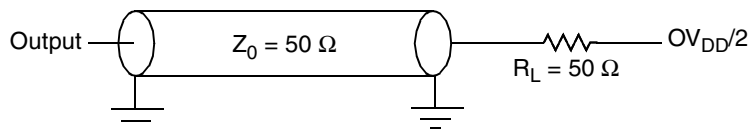
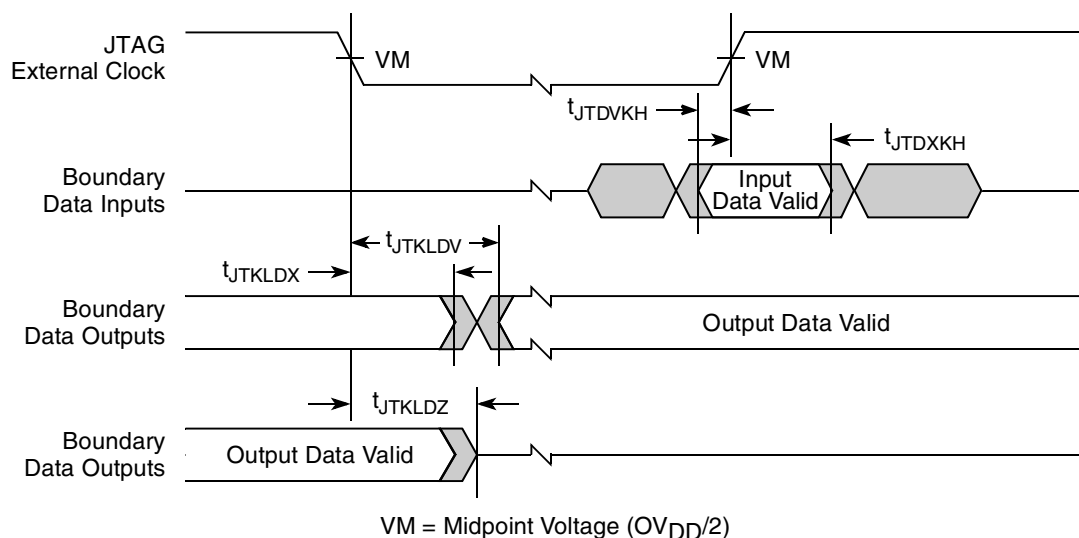

Figure 34. AC Test Load for the JTAG Interface
Figure 37. Boundary-Scan Timing Diagram
Table 51 provides the JTAG AC timing specifications as defined in Figure 34 through Figure 37.
1. All outputs are measured from the midpoint voltage of the falling/rising edge of t_{TCLK} to the midpoint of the signal in question. The output timings are measured at the pins. All output timings assume a purely resistive 50-Ω load (see Figure 34). Time-of-flight delays must be added for trace lengths, vias, and connectors in the system.
2. The symbols used for timing specifications follow the pattern of $t_{(first\ two\ letters\ of\ functional\ block)(signal)(state)(reference)(state)}$ for inputs and $t_{(first\ two\ letters\ of\ functional\ block)(reference)(state)(signal)(state)}$ for outputs. For example, t_{JTDVXH} symbolizes JTAG device timing (JT) with respect to the time data input signals (D) reaching the valid state (V) relative to the t_{JTG} clock reference (K) going to the high (H) state or setup time. Also, t_{JTDVXH} symbolizes JTAG timing (JT) with respect to the time data input signals (D) went invalid (X) relative to the t_{JTG} clock reference (K) going to the high (H) state. Note that, in general, the clock reference symbol representation is based on three letters representing the clock of a particular functional. For rise and fall times, the latter convention is used with the appropriate letter: R (rise) or F (fall).
Figure 34 provides the AC test load for TDO and the boundary-scan outputs.
Figure 37 provides the boundary-scan timing diagram.